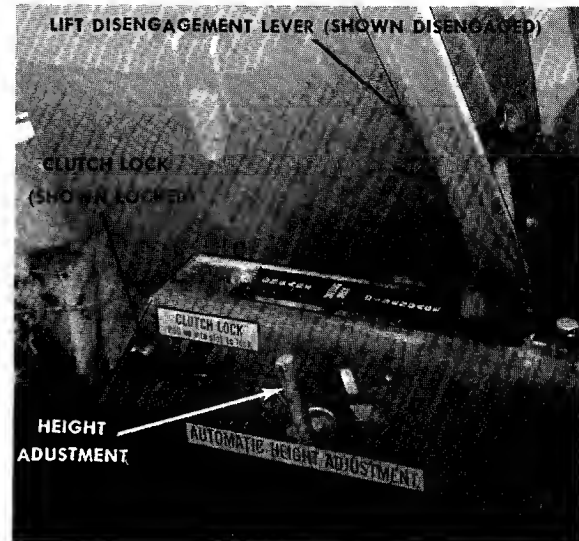

FIGURE 8. LEFT HAND VIEW
f. **Clutch Lockout.** When the clutch pedal is depressed all the way it can be locked by placing the clutch lockout in the START position as shown in figure 8. The clutch lockout must be in this position before the engine will start.
l. Lift and Disengagement Lever. It is used to raise the cutting deck. Pulling it all the way back and locking it disengages the blades. The engine will not start unless the lift and disengagement lever is in the disengaged position. See figure 8.
Step 2. Place the Clutch Lockout in the LOCK position. See figure 8.
Step 3. Place the lift and disengagement lever in the DISENGAGED position. See figure 8.
To stop the blades, move the lift and disengagement lever (figure 8.) into the **DISENGAGED** position. This raises the deck and disengages the blades.